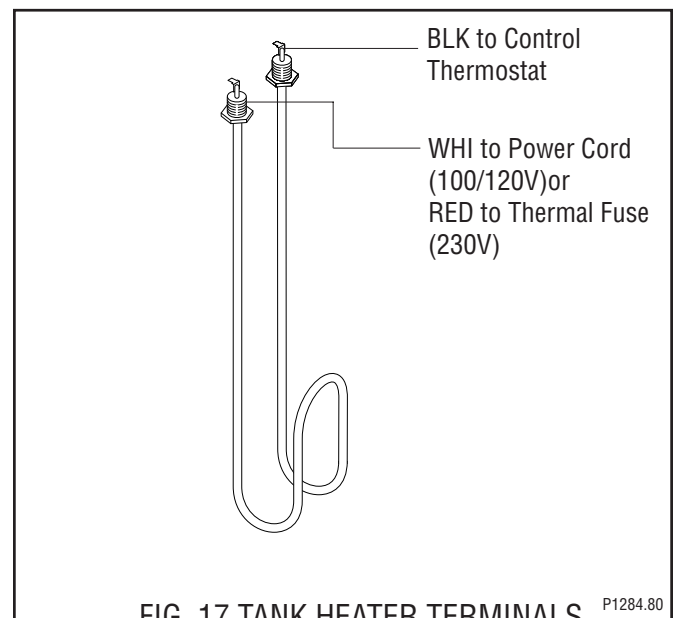

FIG. 17 TANK HEATER TERMINALS
13. Refer to Fig.17 when reconnecting the tank heater wires.